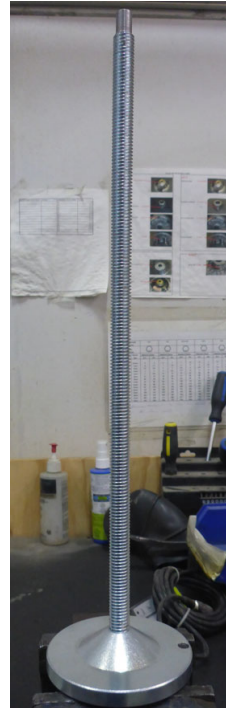

Figure 14
3. Clean the sliding sheave assembly (items ②③④⑤⑥⑦⑧⑨) with an air gun.
4. If it is necessary to disassemble the sliding sheave ② and the spring cover ⑦, use the disassembly tool 5055-0002 (figure 14).